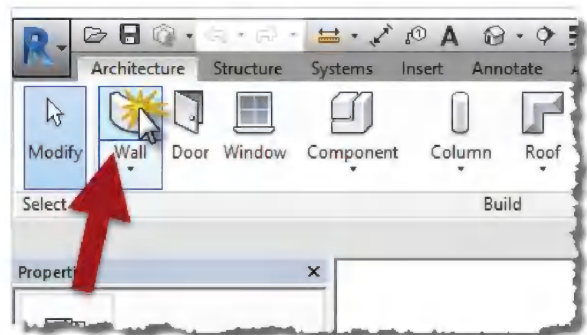

FIGURE 2-1.2 Wall tool
2. Select **Architecture → Build → Wall** on the *Ribbon*. (See Figure 2-1.2.)